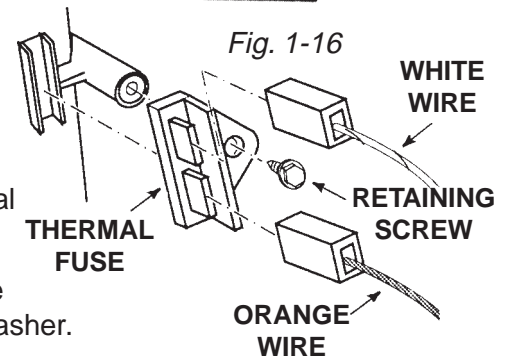

Fig. 1-16
2. Disconnect the orange and white wires from the thermal fuse terminals. (Fig. 1-16)